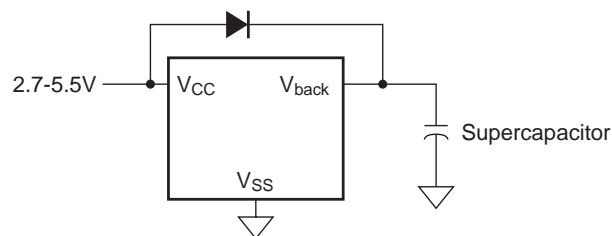

FIGURE 28. SUPERCAPACITOR CHARGING CIRCUIT
- Mode C - In this mode the selection bits indicate a low V_{DD} switchover combined with no communications in battery backup. Operation is actually identical to Mode A with I²C communications down to V_{DD} = V_{RESET}, then no communications (see Figure 28).